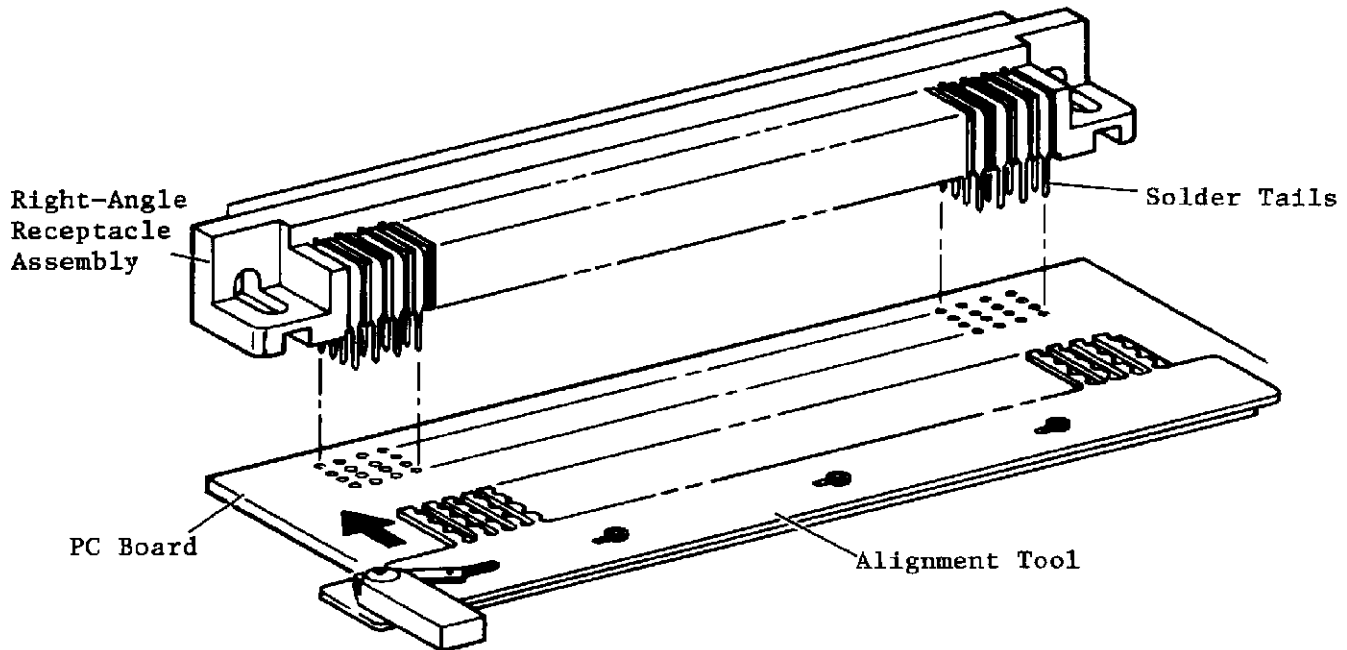

Fig. 8. Alignment Tool
4.3. The alignment tool shown in Figure 8 is used to align solder tails of receptacle assemblies, facilitating a smooth seating process. For complete information on proper tool selection and use, refer to IS 9141.